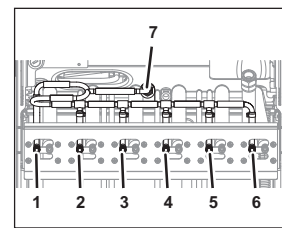
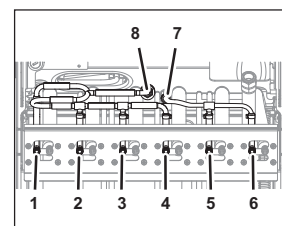

Fig. 19
Fig. 21
A soda dispenser is installed in the unit. There is the option of supplying the dispensing valves 5 and 6 with either still water or soda water via the soda dispenser. The soda dispenser always supplies dispensing valves 1, 2, 3 and 4 with soda water, see Fig. 19 - Fig. 21.
- Fig. 19/1 Soda water line dispensing valve 1
- Fig. 19/2 Soda water line dispensing valve 2
- Fig. 19/3 Soda water line dispensing valve 3
- Fig. 19/4 Soda water line dispensing valve 4
- Fig. 19/5 Soda water line dispensing valve 5
- Fig. 19/6 Soda water line dispensing valve 6
- Fig. 19/7 Soda water line (inlet)
- Fig. 21/1 Soda water line dispensing valve 1
- Fig. 21/2 Soda water line dispensing valve 2
- Fig. 21/3 Soda water line dispensing valve 3
- Fig. 21/4 Soda water line dispensing valve 4
- Fig. 21/5 Still water line dispensing valve 5
- Fig. 21/6 Still water line dispensing valve 6
- Fig. 21/7 Still water line (inlet)
- Fig. 21/8 Soda water line (inlet)